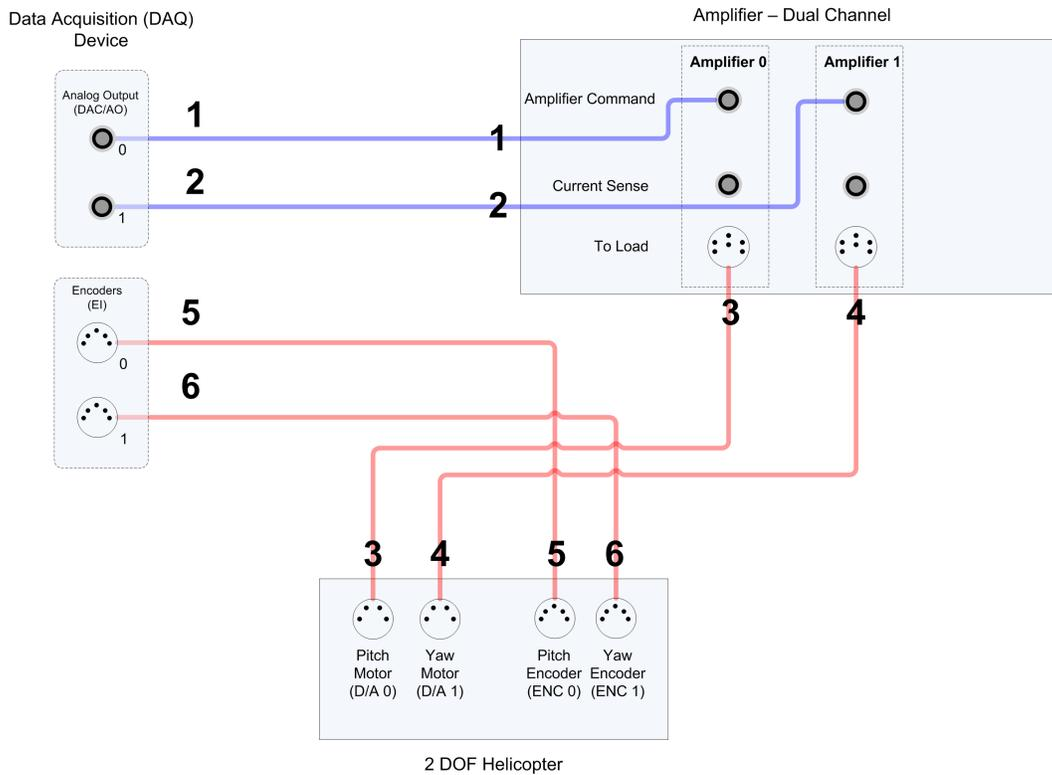

Figure 3.5: Typical connections of the 2 DOF Helicopter Experiment
This section describes the typical cabling connections that are used by default for the Quanser 2 DOF Helicopter system. The yaw and pitch encoders are connected directly to the data-acquisition board. This provides the position feedback necessary to control the helicopter. The data-acquisition board, i.e., DAQ board, outputs a control voltage that is amplified and drives the front and back motors. Figure 3.5 illustrates the wiring between the two-channel data-acquisition device, the 2 DOF Helicopter base, and a two-channel amplifier. These connections are described in detail in Section 3.2.1 and summarized in Table 3.1.
Note: It is assumed that an Emergency Stop has to be connected to the amplifier. Your configuration may be different. For instance, you may have a DAQ with more IOs than the one presented in Figure 3.5 or have two single-channel amplifiers that do not require any E-Stop (in which case, you would omit connection #7).
3. Connect one of the connectors on the 2x RCA to 2x RCA cable from the *Analog Output Channel #0* on the terminal board to the Amplifier 0 *Amplifier Command* connector. This is illustrated by connection #1 in Figure 3.5.
4. Connect the other line of the 2XRCA to 2XRCA cable from the *Analog Output #1* connector on the terminal board to the Amplifier 1 *Amplifier Command* connector. This is illustrated by connection #2 in Figure 3.5.
5. Connect a 4-pin-DIN to 6-pin-DIN cable from Amplifier 0 *To Load (3x Amplifier Command)* connector, to the *Pitch Motor (D/A 0)* connector on the 2 DOF Helicopter plant. This is illustrated by connection #3 in Figure 3.5.
6. Connect another 4-pin-DIN to 6-pin-DIN cable from the Amplifier 1 *To Load (3x Amplifier Command)* connector, to the *Yaw Motor (D/A 1)* connector on the 2 DOF Helicopter plant. This is illustrated by connection #4 in Figure 3.5.
7. Connect a 5-pin-stereo-DIN to 5-pin-stereo-DIN cable from the *Encoder 0* connector on the terminal board, to the *Pitch Encoder (ENC 0)* connector on the 2 DOF Helicopter plant. This is illustrated by connection #5 in Figure 3.5.
8. Connect another 5-pin-stereo-DIN to 5-pin-stereo-DIN cable from the *Encoder 1* connector on the terminal board to the *Yaw Encoder (ENC 1)* connector on the 2 DOF Helicopter plant. This is illustrated by connection #6 in Figure 3.5.